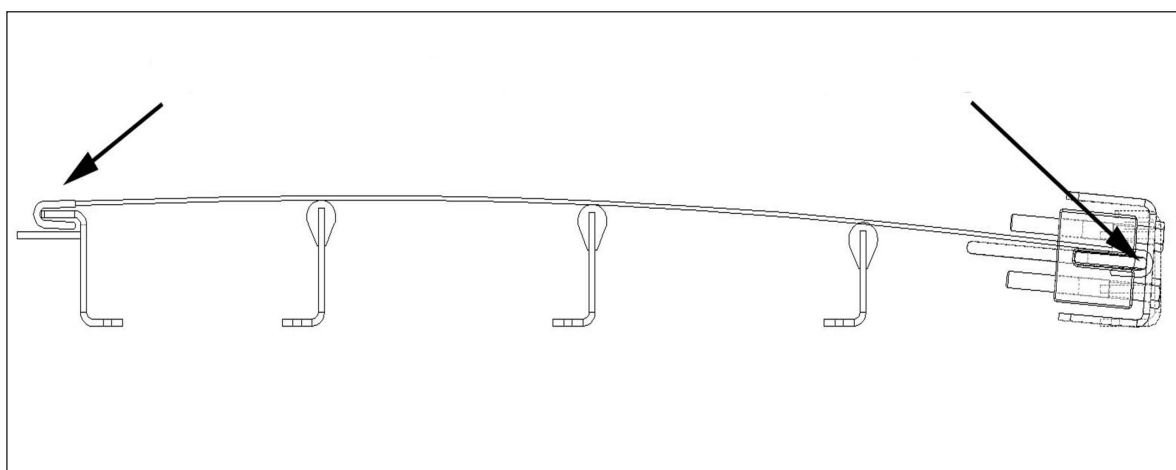

Figure 6.20 - Screen Mesh Hooks
7. Fit screening media ensuring each end hook, is seated correctly Ref: Figure 6.20.